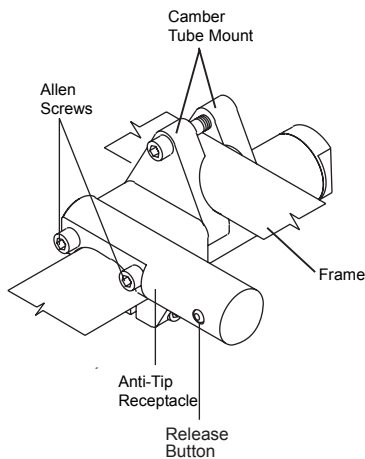

Figure 127
NOTE: Unless you ordered rear anti-tips when you originally ordered your TiLite wheelchair, you will need to order replacement Allen Screws when ordering rear anti-tips. You will also need to order new camber tube mounts and a camber tube clamp. See Figure 127.
3. Align the two holes in the anti-tip receptacle with the two holes in the camber tube mounts, the camber tube clamp and with the anti-tip receiver positioned over the camber tube and facing rearward. See Figure 127.